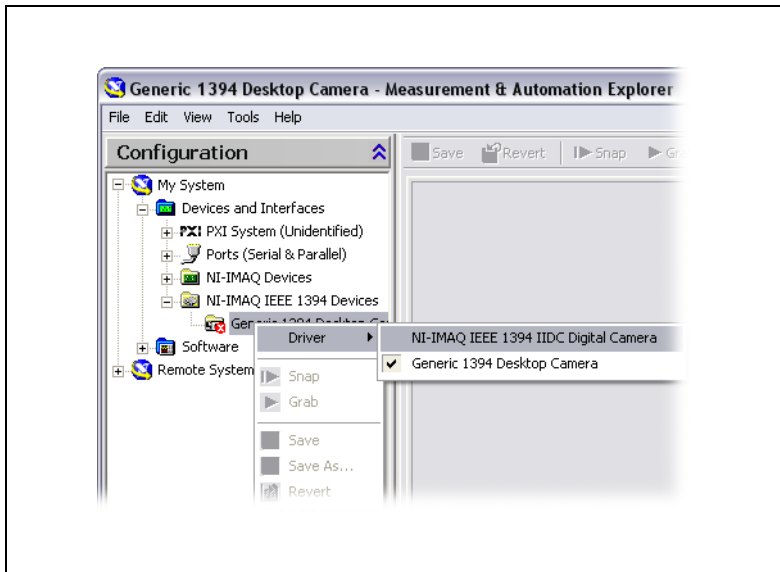

Figure 1. Switching the Camera Driver
7. If your camera does not show up as an NI-IMAQ IEEE 1394 digital camera, change the associated driver by right-clicking the camera and selecting **Driver»NI-IMAQ IEEE 1394 IIOC Digital Camera**, as shown in Figure 1.